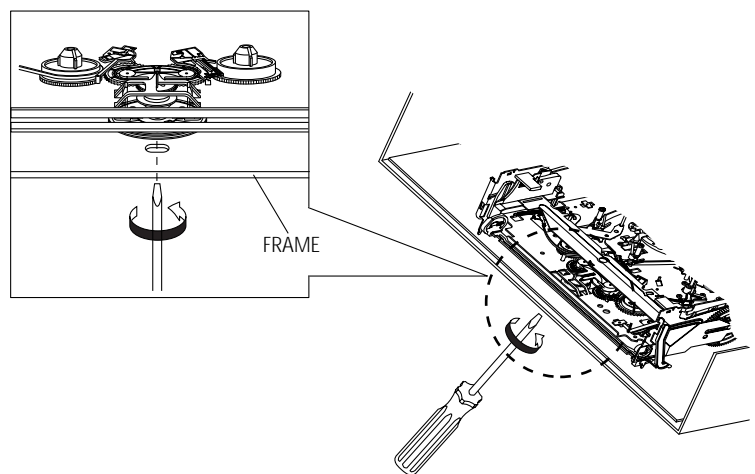

Fig. 2-3
- 3) When Slider S, T are approached in the position of unloading, rotate holder Clutch counterclockwise after inserting screw driver in the hole of frame's bottom in order to wind the unwound tape. (Refer to Fig. 2-3)